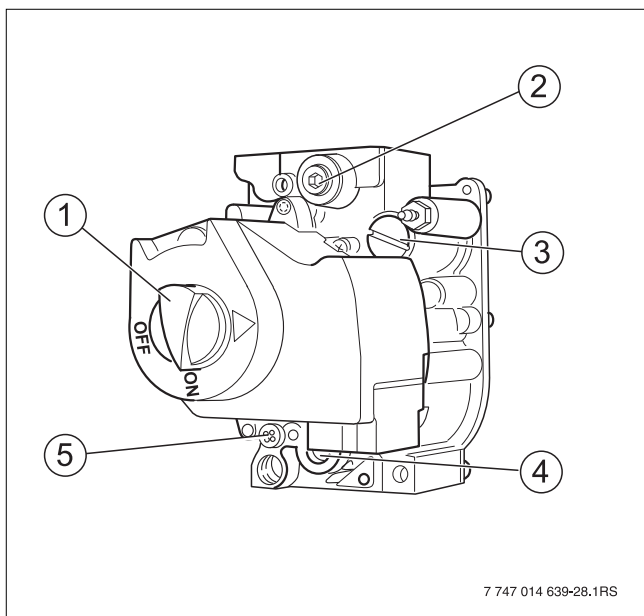

Fig. 11 Gas valve
- ▶ Never use force to operate the ON/OFF knob (→ Fig. 11, [1], page 10).
- Remove the safety screw for orifice pressure setting (→ Fig. 11, [3], page 10) from the gas valve.
- Screw the safety screw for orifice pressure setting (→ Fig. 11, [3], page 10) back into the gas valve.
The adjustment screw for the pilot orifice pressure setting is located behind the safety screw for the pilot orifice pressure setting (Fig. 11, [5], page 10).
- Remove the safety screw for pilot orifice pressure setting (Fig. 11, [5], page 10).
- ▶ After adjustment, tighten the safety screw for the pilot orifice pressure setting (Fig. 11, [5], page 10) again.
- ▶ Turn the gas valve ON/OFF knob (Fig. 11, [1], page 10) clockwise to the OFF position.